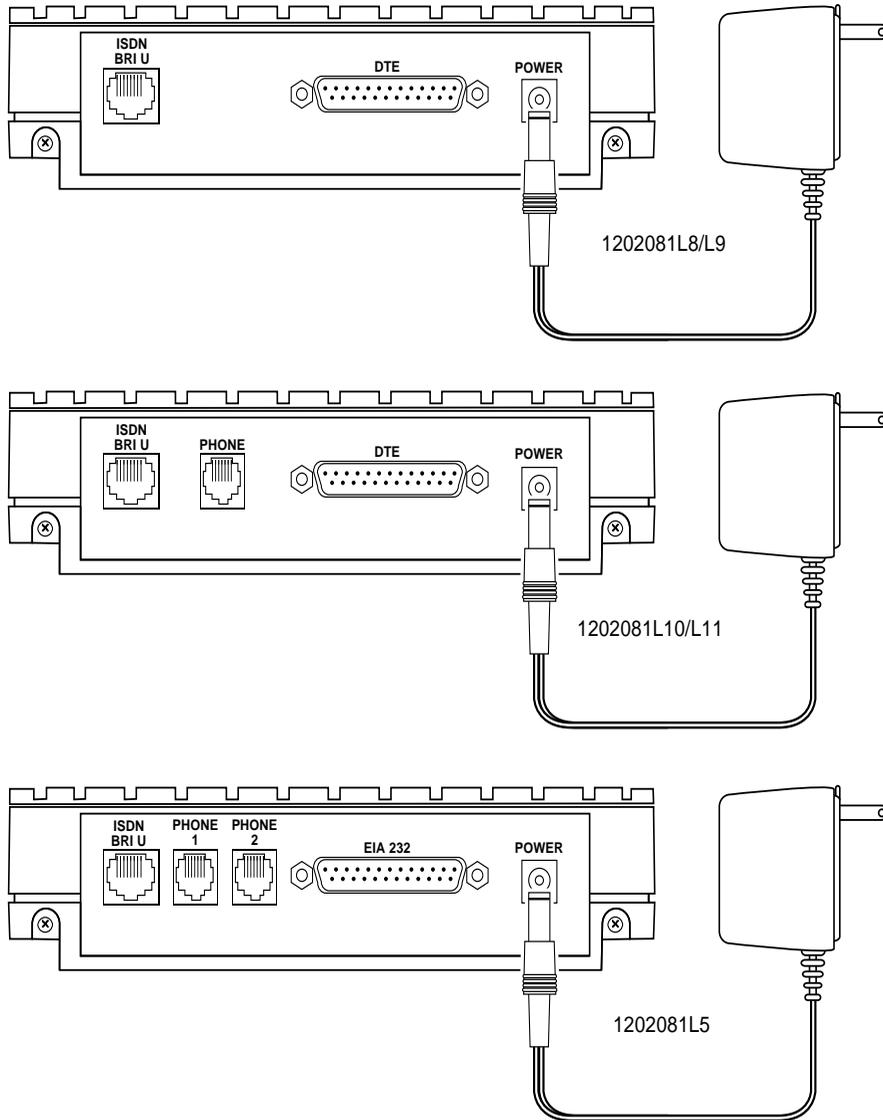

Figure 1-2
The ISU Express has one RJ-45 jack, labeled **ISDN BRI U** or **ISDN BRI S/T** on the rear panel for network connection (see Figure 1-2). ISDN basic rate service divides a standard telephone line into three digital channels capable of simultaneous voice and data transmission. The three channels are comprised of two bearer (B) channels at 64 kbps and one data (D) channel at 16 kbps, known as 2B+D.